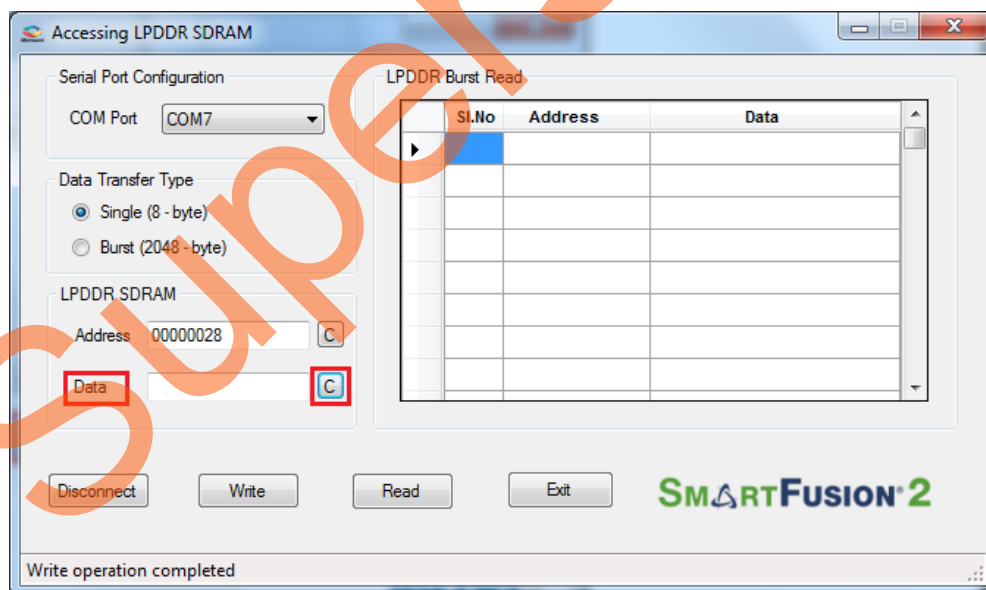

Figure 22 • Clear the Data Field
7. Press **C** to clear the data present in the **Data** field. Figure 22 highlights the Clear button, C.